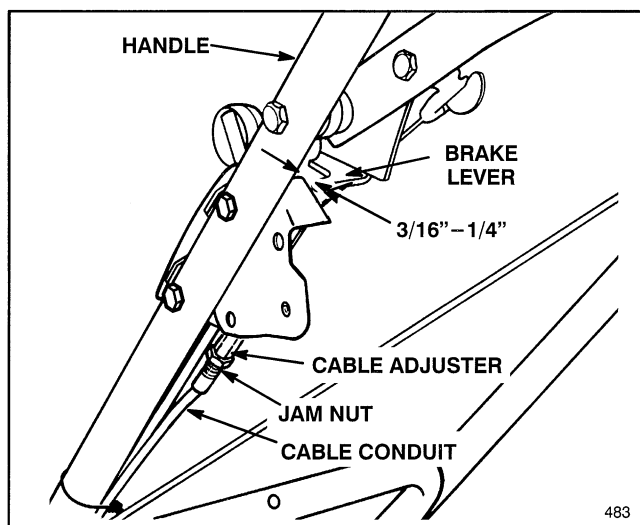

Figure 18
2. CHECK ADJUSTMENT (Fig. 18)—Move control bar toward handle until slack in wire is removed. Gap between brake lever and handle must be  $3/16'' - 1/4''$ . See step 3 for adjustment.
3. ADJUST CABLE CONDUIT (Fig. 18)—Loosen jam nut on brake cable. Insert  $3/16'' - 1/4''$  object between brake lever and handle. Turn cable adjuster on brake cable until slack is removed. Then tighten nut.